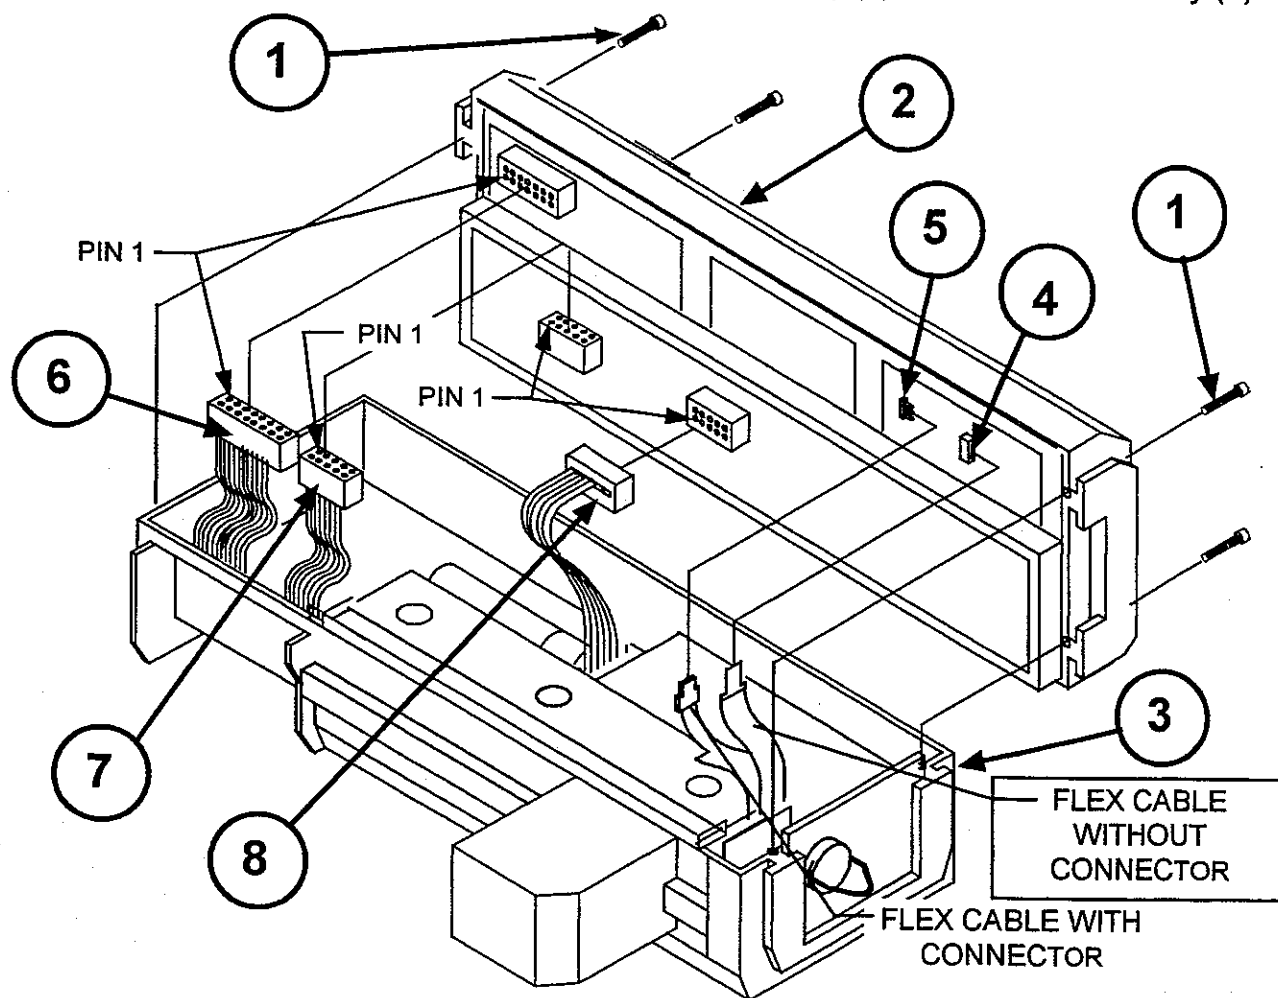

Figure 7-8 Cover and Case Assemblies
7.2.5 Cover and Case Assemblies (refer to Figures 7-8 and 7-9)**CAUTION**